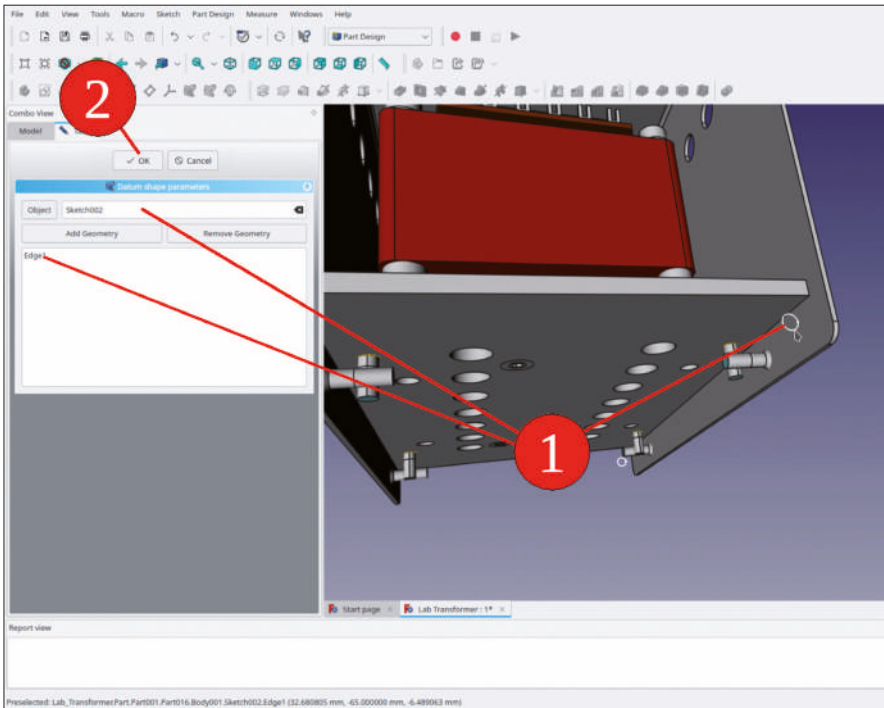

Figure 9-153
9. Click on the circle of the front-side sketch. It is important that the exact edge is listed in the task window, not only the sketch object (Figure 9-153). Close the task with the 'OK' button.